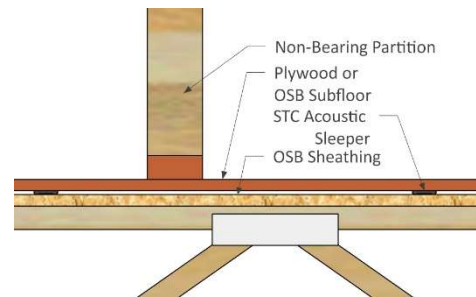

Figure 3: Non-Bearing Partition
6. Non-load-bearing partitions may be installed directly on the subfloor panel with no supplemental support (Fig. 3).